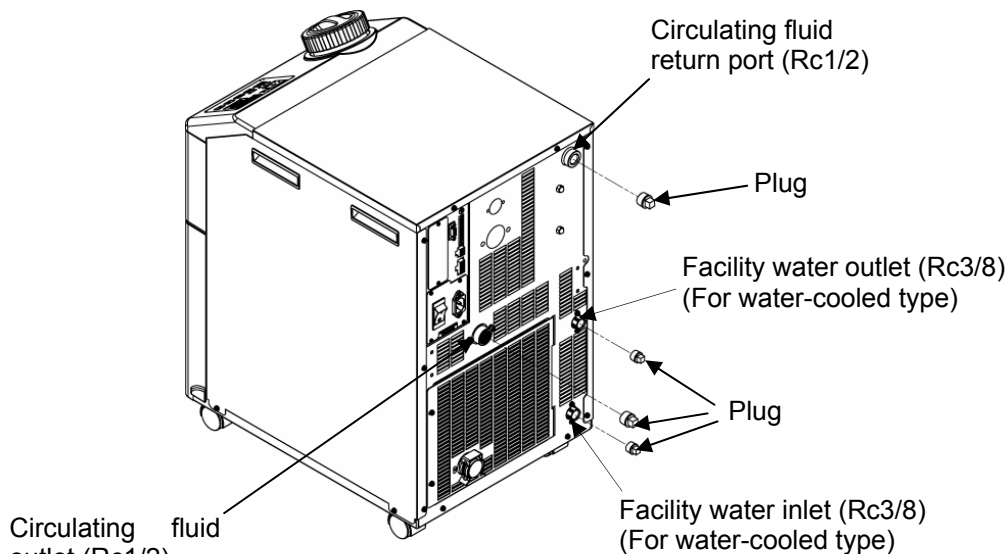

Fig. 7-6 Plug to the piping of the product
9. Refer to Fig. 7-6 to mount the plug to the piping of the product.